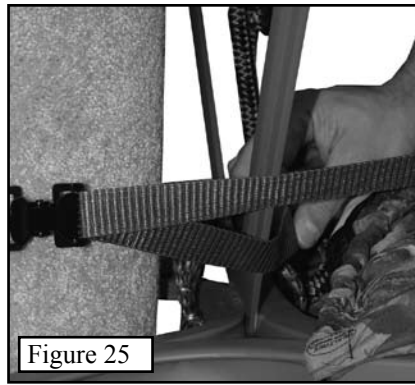

Figure 25
**Step 2.** Wrap the supplied green tourniquet buckle strap (1" strap with spring loaded buckle) around the tree and through the seat frame as shown in *Figure 25*. Securely tighten the strap to prevent the notched teeth area from losing contact with the tree.
**Step 2.** Disconnect the elastic cord that has been holding the foam seat in place and fold the seat up. Secure the backrest and seat as shown previously in *Figure 21*. Disconnect and store the strap that has held the seat frame to the tree (shown in previous *Figure 25*).